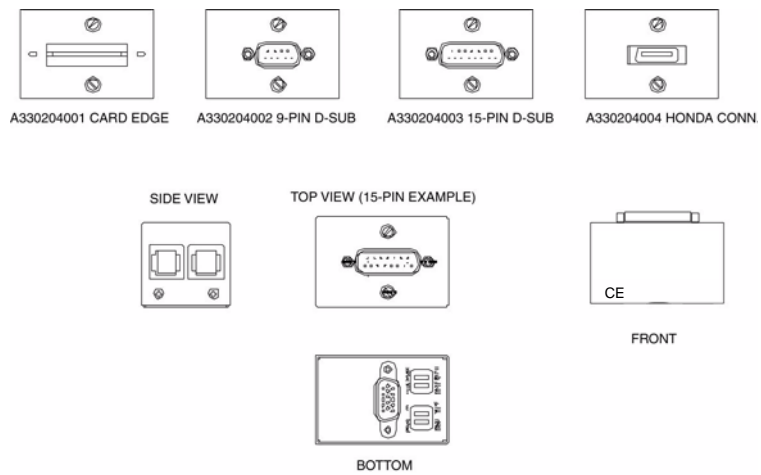

Figure 54: Electrical Adapters Drawings
All IN2 MFC electrical adaptors are designed to adapt the standard 15-pin high-density D-subminiature male connector on top of the IN2 MFC to common connectors used on other flow control products from several manufacturers. Each adaptor has four (4) dual-inline package (DIP) switches on its bottom surface that must be set prior to installation of the adaptor on top of the IN2 MFC. To access these switches, turn the adaptor over so that the female 15-pin D-subminiature plug is facing as shown in Figure 54.